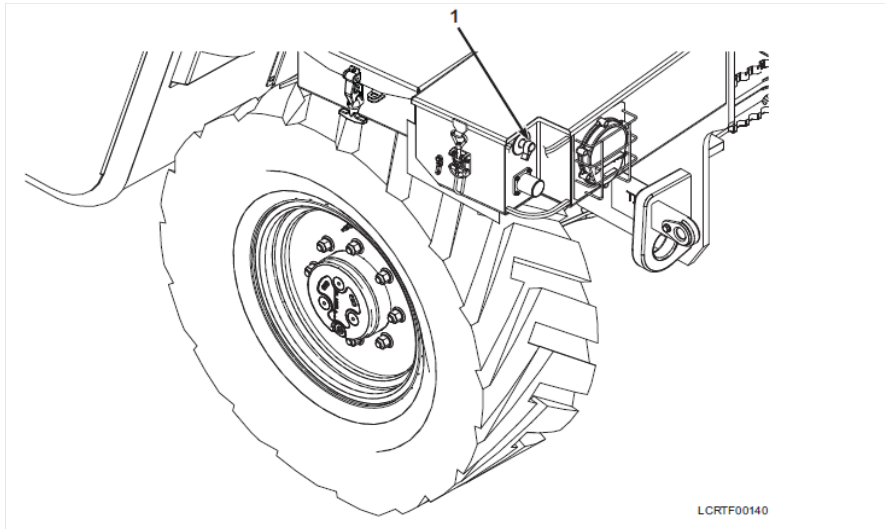

Figure 3-72
2. Move battery disconnect switch (Figure 3-72, Item 1) to on position.